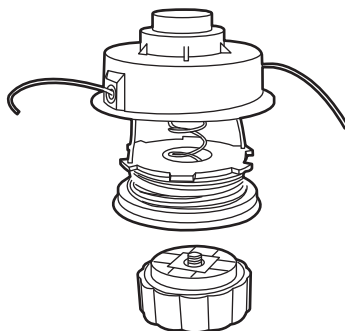

Fig. 16b
- > Twist the spool (22b) slightly to open the trimming head housing. The cover and spool will pop out (Fig. 16b).